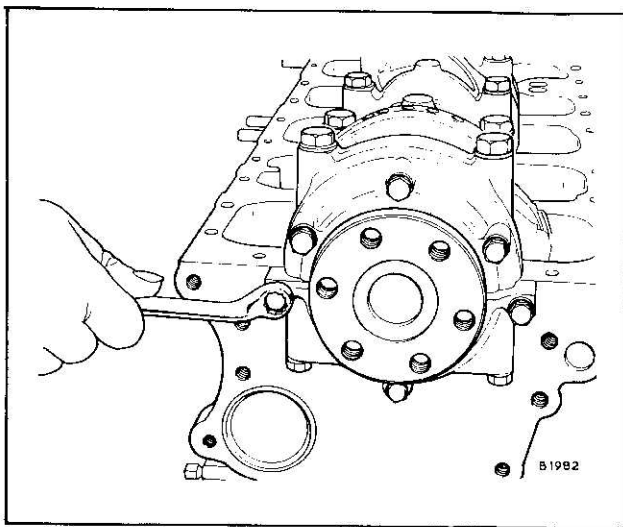

Fig. 1
1. Crankshaft rear oil seal, Fig. 1.